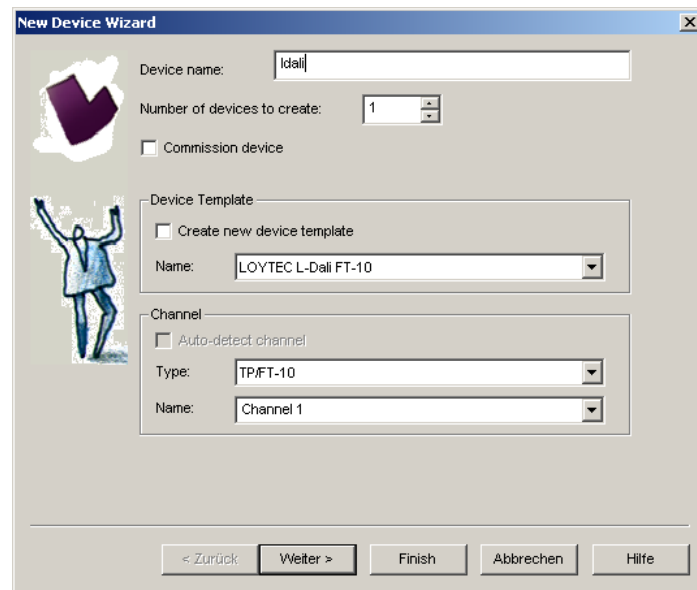

Figure 85: Create a new device in the drawing.
1. In your LonMaker drawing, drag a device stencil into the drawing. Enter an appropriate name as shown in Figure 85.